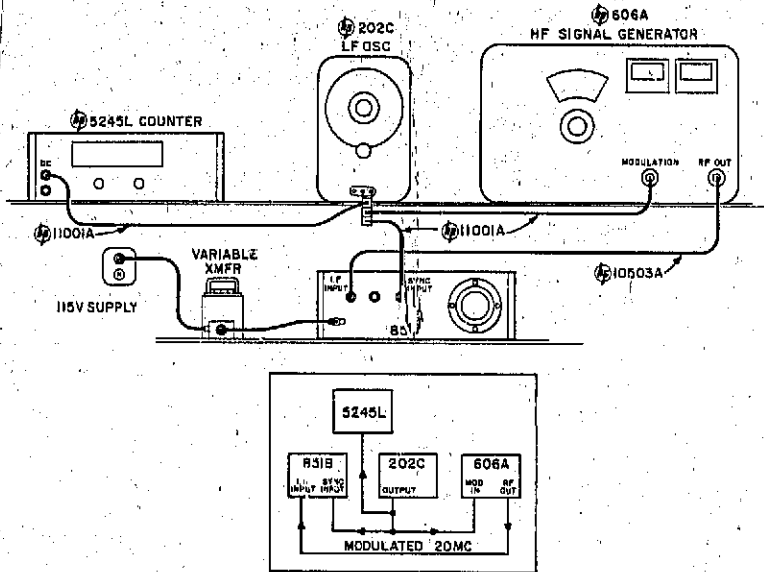

Figure 5-7. Sweep Calibration Test Setup
5-54. MEASUREMENT SETUP. Connect as indicated in Figure 5-7.
5-55. PROCEDURE. The following instructions assume use of equipment shown in Figure 5-7.
e. With equipments connected as shown in Figure 5-7, the output of Oscillator 202C, monitored by the counter, modulates the 20-Mc output of the signal generator. Output of the signal generator is displayed on the 851 CRT. To check the linearity of the sweep generator output and to calibrate the 3 MILLISECOND/CM position of the 851 SWEEP TIME switch:
- (1) Set SWEEP TIME to 3 MILLISEC/CM.
- (2) Adjust Oscillator 202C for an output of precisely 333 cps (reading of 3.0 ms with counter set for 10-period average).
5-57. SETUP. To check that the SWEEP TIME VERNIER has the proper range, use the SWEEP TIME calibration setup (see Paragraph 5-51 and Figure 5-7).
5-64. MEASUREMENT SETUP. Similar to that shown in Figure 5-7 except that oscilloscope replaces counter, and is connected as noted in Paragraphs 5-63, 5-66, and 5-67.
5-72. MEASUREMENT SETUP. Make connections between low-frequency oscillator, signal generator, and 851 as indicated in Figure 5-7. Refer to Par. 5-55, steps a through d, for initial control settings.